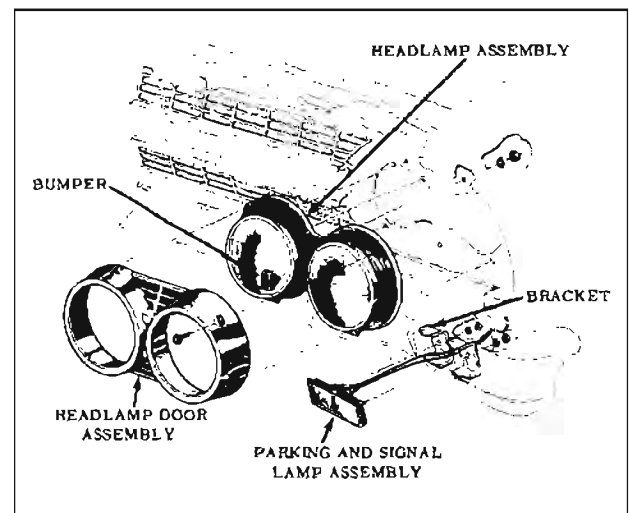

Fig. 12-106 Headlamp Wiring
2. Remove headlamp door attaching screws and remove headlamp door. (Fig. 12-106)